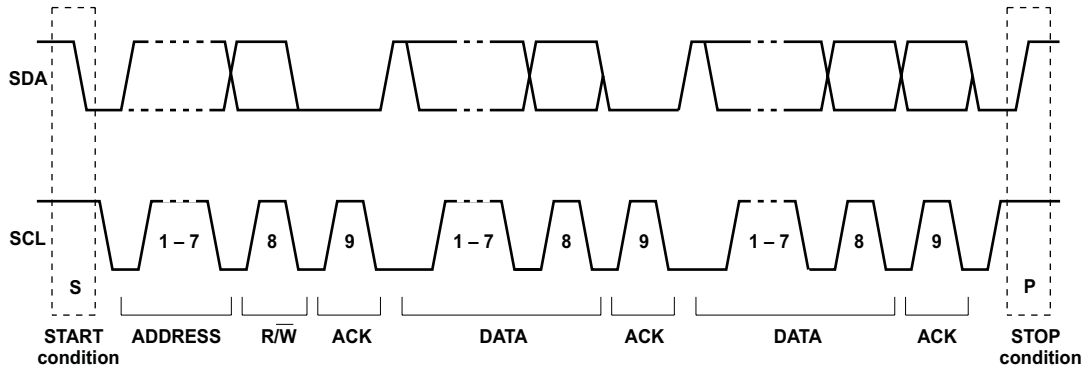

Figure 20. I2C Address and Data Cycles
- The master generates further SCL cycles to either transmit data to the slave (R/W bit 0) or receive data from the slave (R/W bit 1). In either case, the receiver needs to acknowledge the data sent by the transmitter. So an acknowledge signal can either be generated by the master or by the slave, depending on which one is the receiver. The 9-bit valid data sequences consisting of 8-bit data and 1-bit acknowledge can continue as long as necessary (see Figure 20).